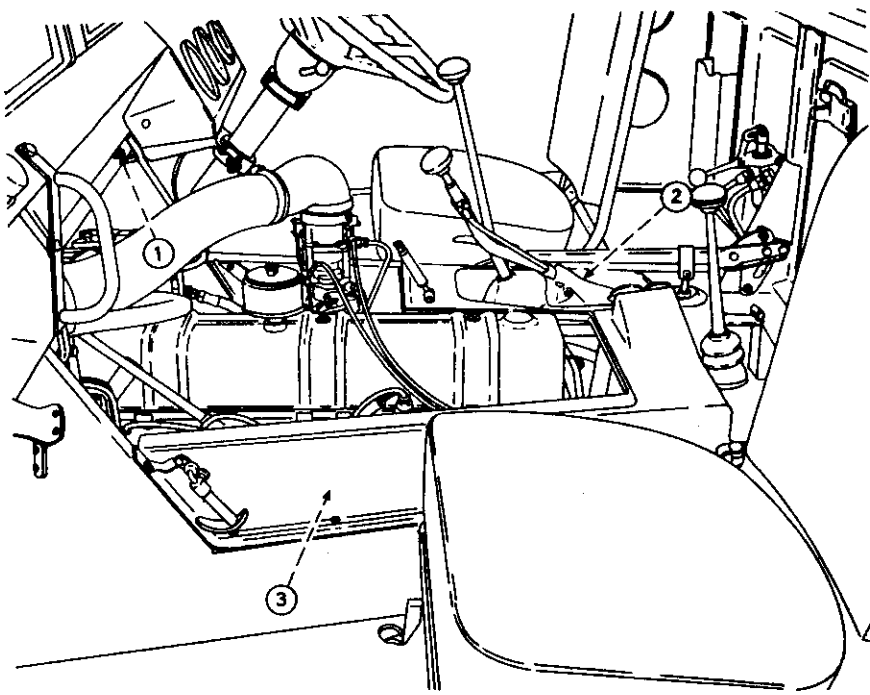

FIG 19 - CAB INTERIOR
k. Remove two bolts from the top of each "A" frame, one of which is shown as item 1, fig 19.
- c. Undo the press buttons of the control lever boot (item 2, fig 19).
- d. Remove 16 screws from the lower cover (item 3, fig 19) and lift off the cover.